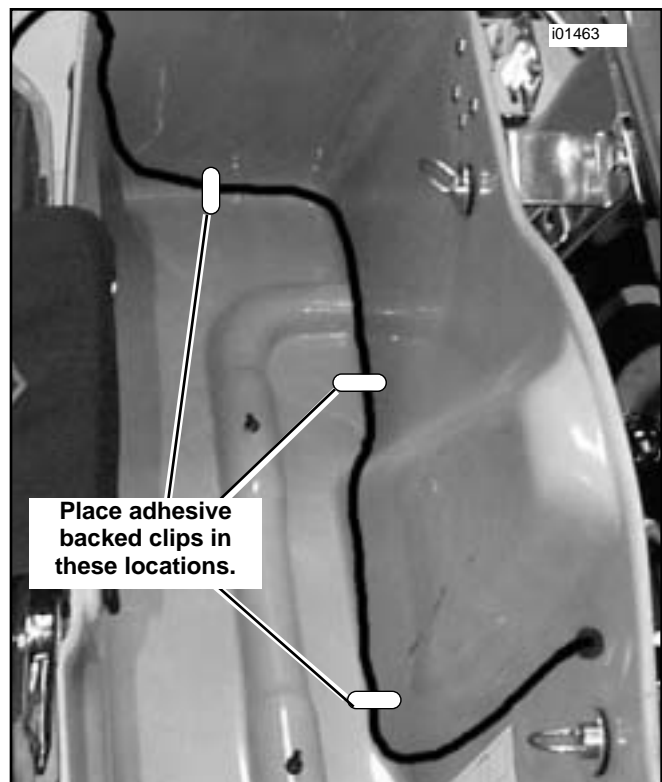

Figure 4. Wire routing inside saddlebag
8. See Figure 4. Drill a hole through the side of the saddlebag that faces the motorcycle. The hole should be 2 inches below the edge of the saddlebag and in front of the shock absorber. Use a 1/16" drill for a pilot hole and then enlarge the hole with a 3/8" drill. Install rubber grommet in hole.
9. See Figure 4. Attach the wires to the inside of the saddlebag bottom with adhesive backed clips as shown. Route wires out saddlebag bottom and through grommet.